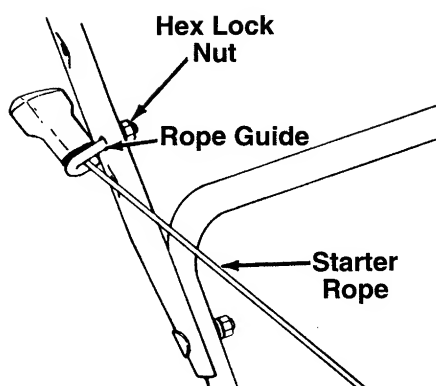

FIGURE 8.
3. Place the rope guide around the starter rope, so the rope guide bends downward as shown in figure 8. Insert the rope guide into the handle, and secure with hex lock nut.